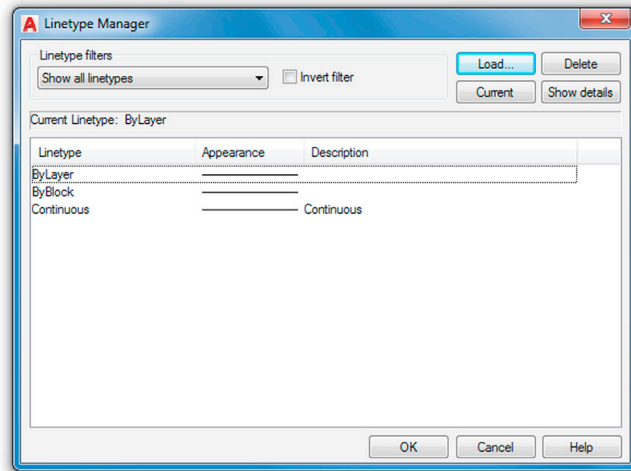

FIGURE 3.7 Linetype Manager.
- Step 1.** Type in `linetype` and press Enter or choose Format→Linetype... from the cascading menu. The Linetype Manager (Fig. 3.7) appears. If it is full of linetypes, it means they have been loaded earlier. If not, and the Linetype Manager is empty, go on to Step 2.